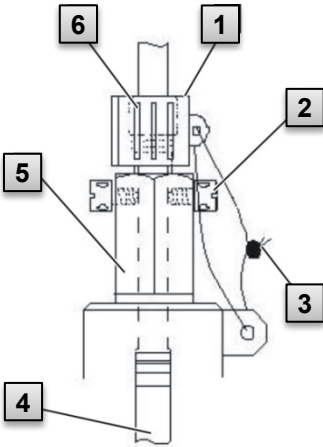

Fig. 14
2. Have a calibration officer seal the temperature sensor using the sealing sleeve **1** and the wire seal **3** as per Fig. 14.